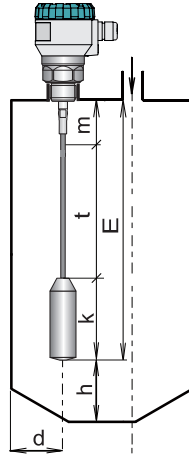

Fig. 16: Installation with rod electrode
- For installation of the level meter with rope electrode into deep tanks and silos the length of the electrode must be selected so that the weight will be below the minimum measured level, see Fig. 16.
- The distance the electrode from the tank wall must be at least 300 mm. Otherwise, the level meter install as far as possible from the walls, to the middle between the wall and the vertical inlet, see Fig. 16. It must be ensured that the rope electrode could not touch the vessel wall caused by the motion of the medium.